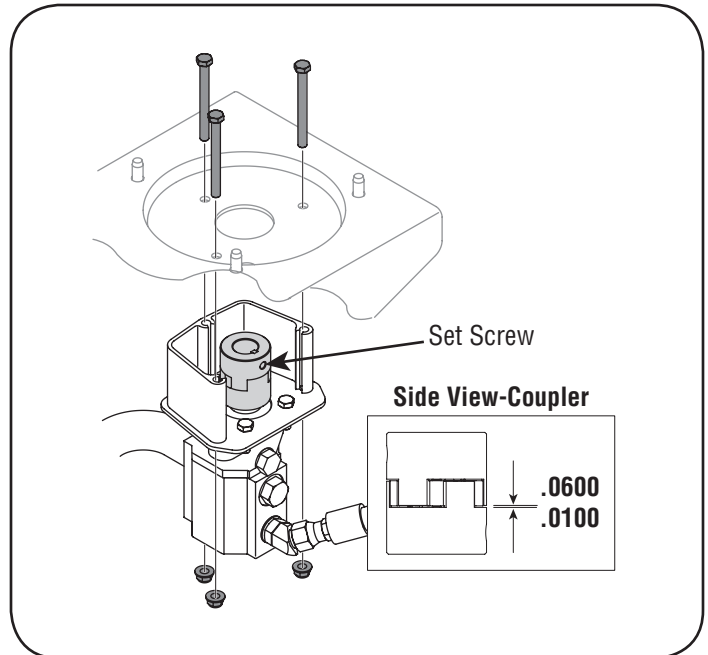

Figure 5-2
1. Remove the three nuts that secure the pump to the coupling shield. Two nuts are at the bottom corners and one is in the top center. See Figure 5-2.
10. Set .010” to .060” clearance/gap between the nylon “spider” and the engine coupling half by sliding a feeler gauge or matchbook cover between the nylon “spider” and the engine coupling half and moving pump coupling half as needed. Secure pump coupling half with set screw. See Figure 5-2.